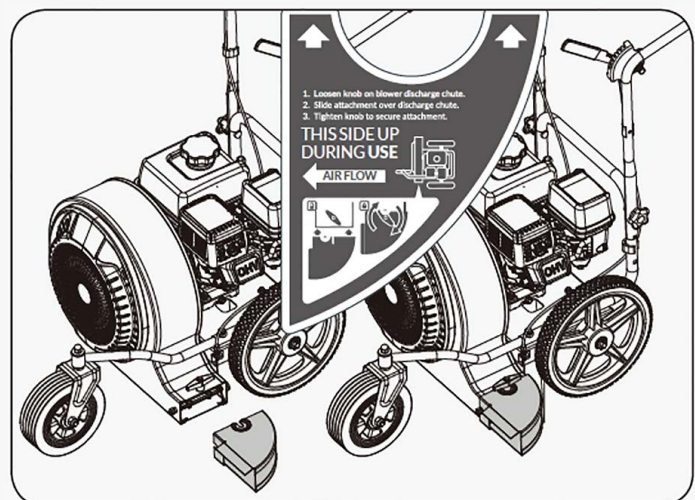

Figure 14
3. Slide the attachment over the discharge chute. The slot on the top of the attachment will mate with the bolt of the attachment knob. (See **Figure 14**)